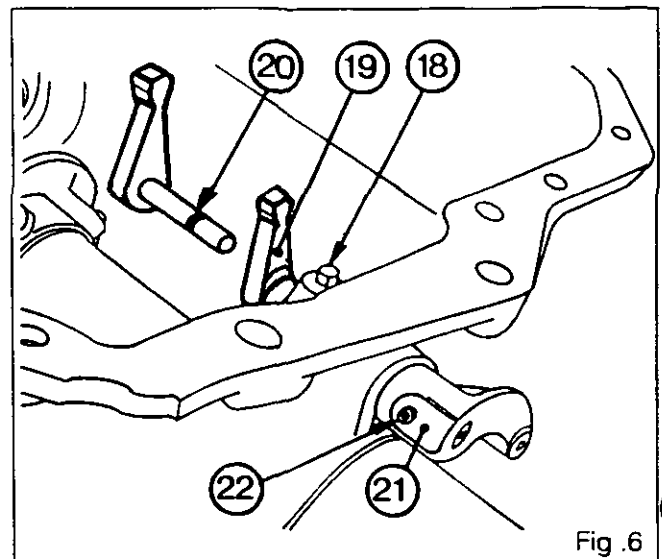
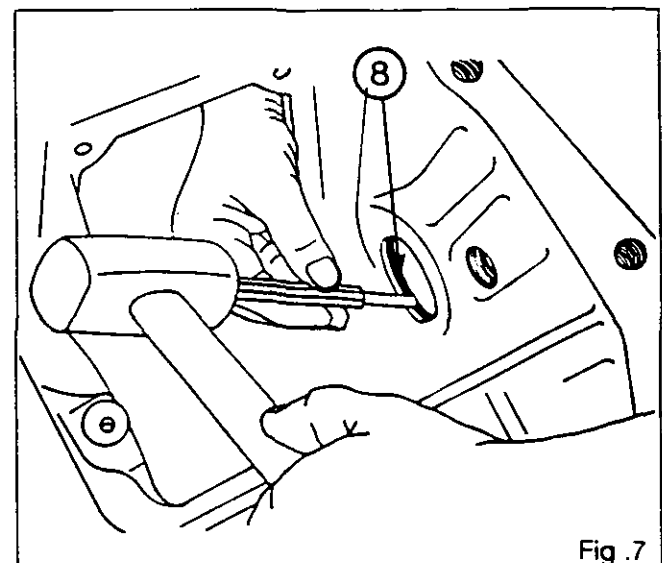

Fig. 6
Fig. 7
13. Remove the elbow connector (23).
14. Unscrew the nut (16) and remove the vehicle speed sensor (15).
15. Unscrew the nut (25) and remove the position sensor (26).
- For tractors equipped with economy 4-speed, carry out operations 16 to 19 (Fig. 6).**
16. Undo the Allen screw (22) in the lever (21).
17. Undo the screw (18).
18. Remove the control finger (19).
19. Remove the O-ring (20).
20. Flatten tabs locking the bolts (2) retaining the lift arms..
22. Remove the washers (1).
24. Remove the lift arms (5) and (11).
25. Remove the nylon rings (6) and the O-rings (7).
26. Remove the set screws (14) in the cam (9).
27. Withdraw the lift shaft (4) from the cover.
28. Remove the cam (9).
29. Withdraw the bushes (8) (Fig. 7).
30. Remove the cup plug (17) (2-speed PTO).